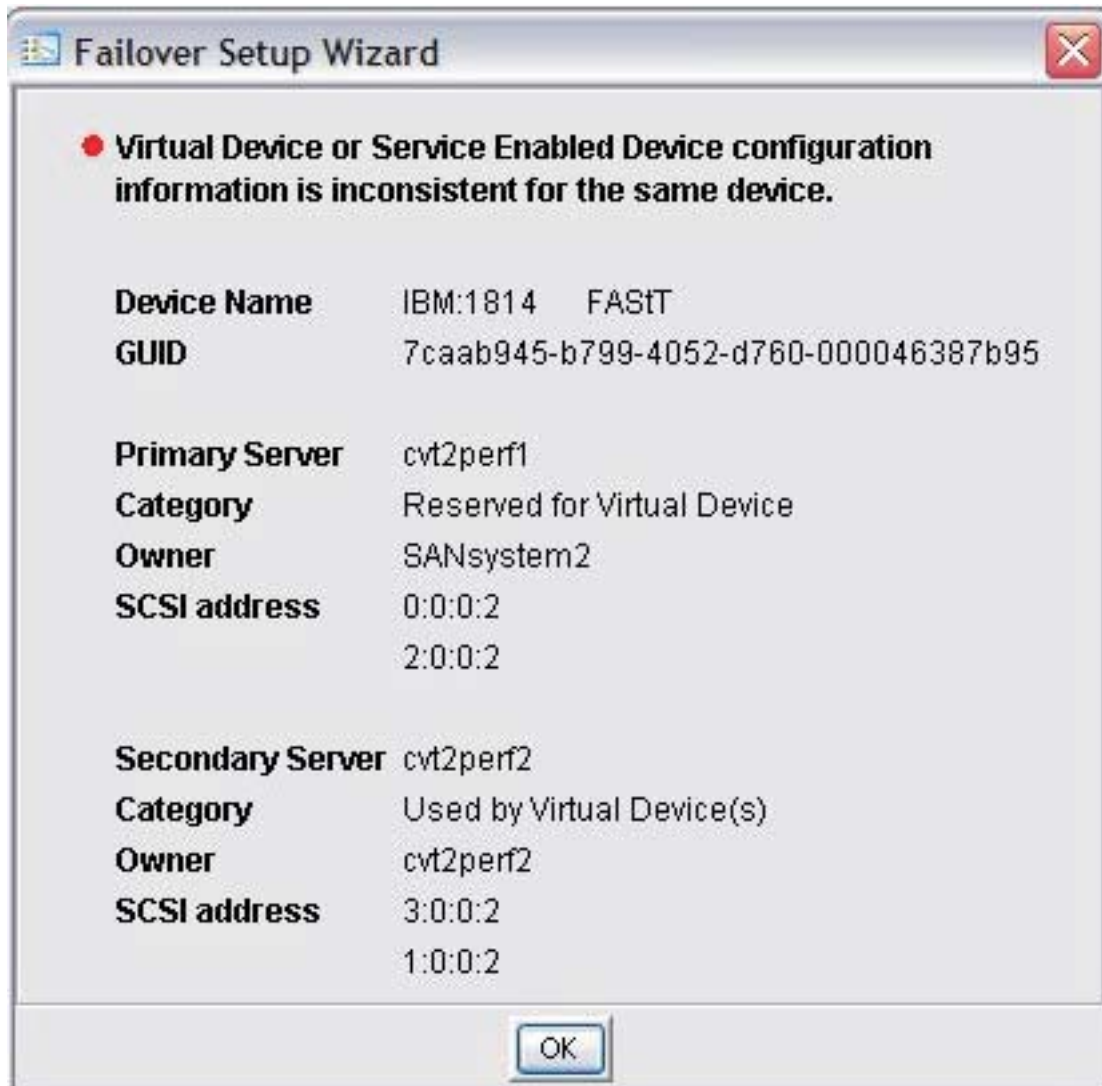

Figure 68. Summary of inconsistent device information
13. ___ In the "Virtual Device or Service Enabled Device..." window (Figure 68), click **OK**.